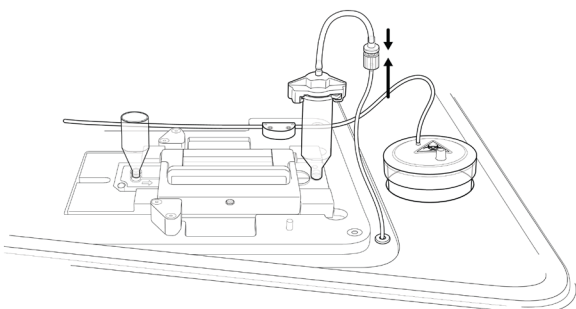

Fig. 29. Attach the vacuum tubing to the Backflow Adaptor tubing.
- Attach the vacuum tubing from the Genesis to the Backflow Adaptor tubing (Figure 29).